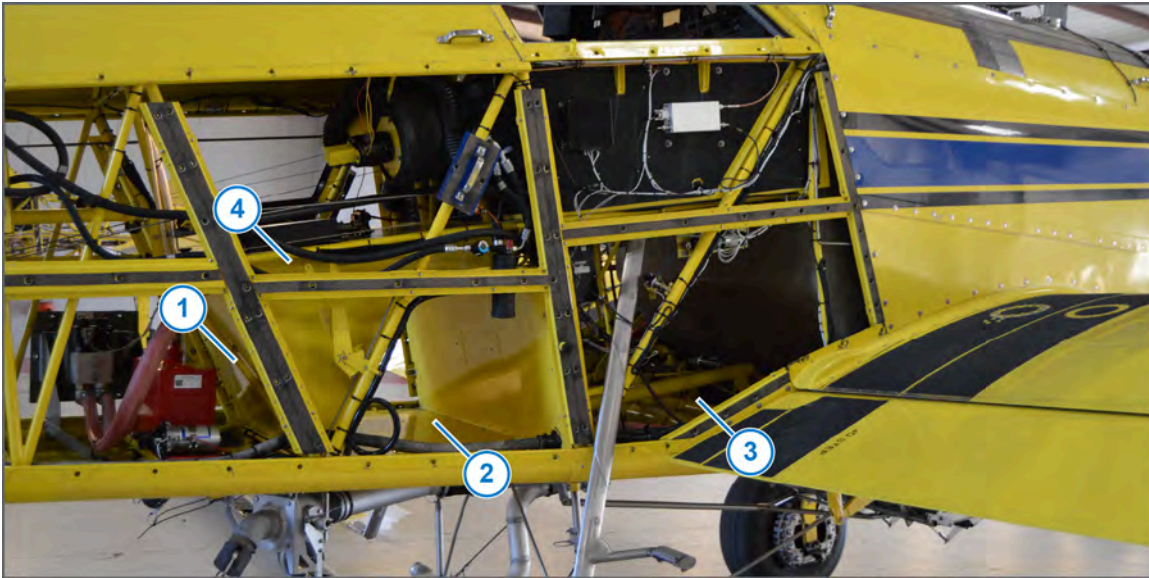

Figure 18: Gateway Hub Mounting Options
- Option 1 (Figure 18, Item 1)—On the back of the luggage compartment
- Option 2 (Figure 18, Item 2)—Inside the luggage compartment
- Option 3 (Figure 18, Item 3)—Underneath the cockpit
- Option 4 (for AT-802/802A Only) (Figure 18, Item 4)—On the top of the luggage compartment